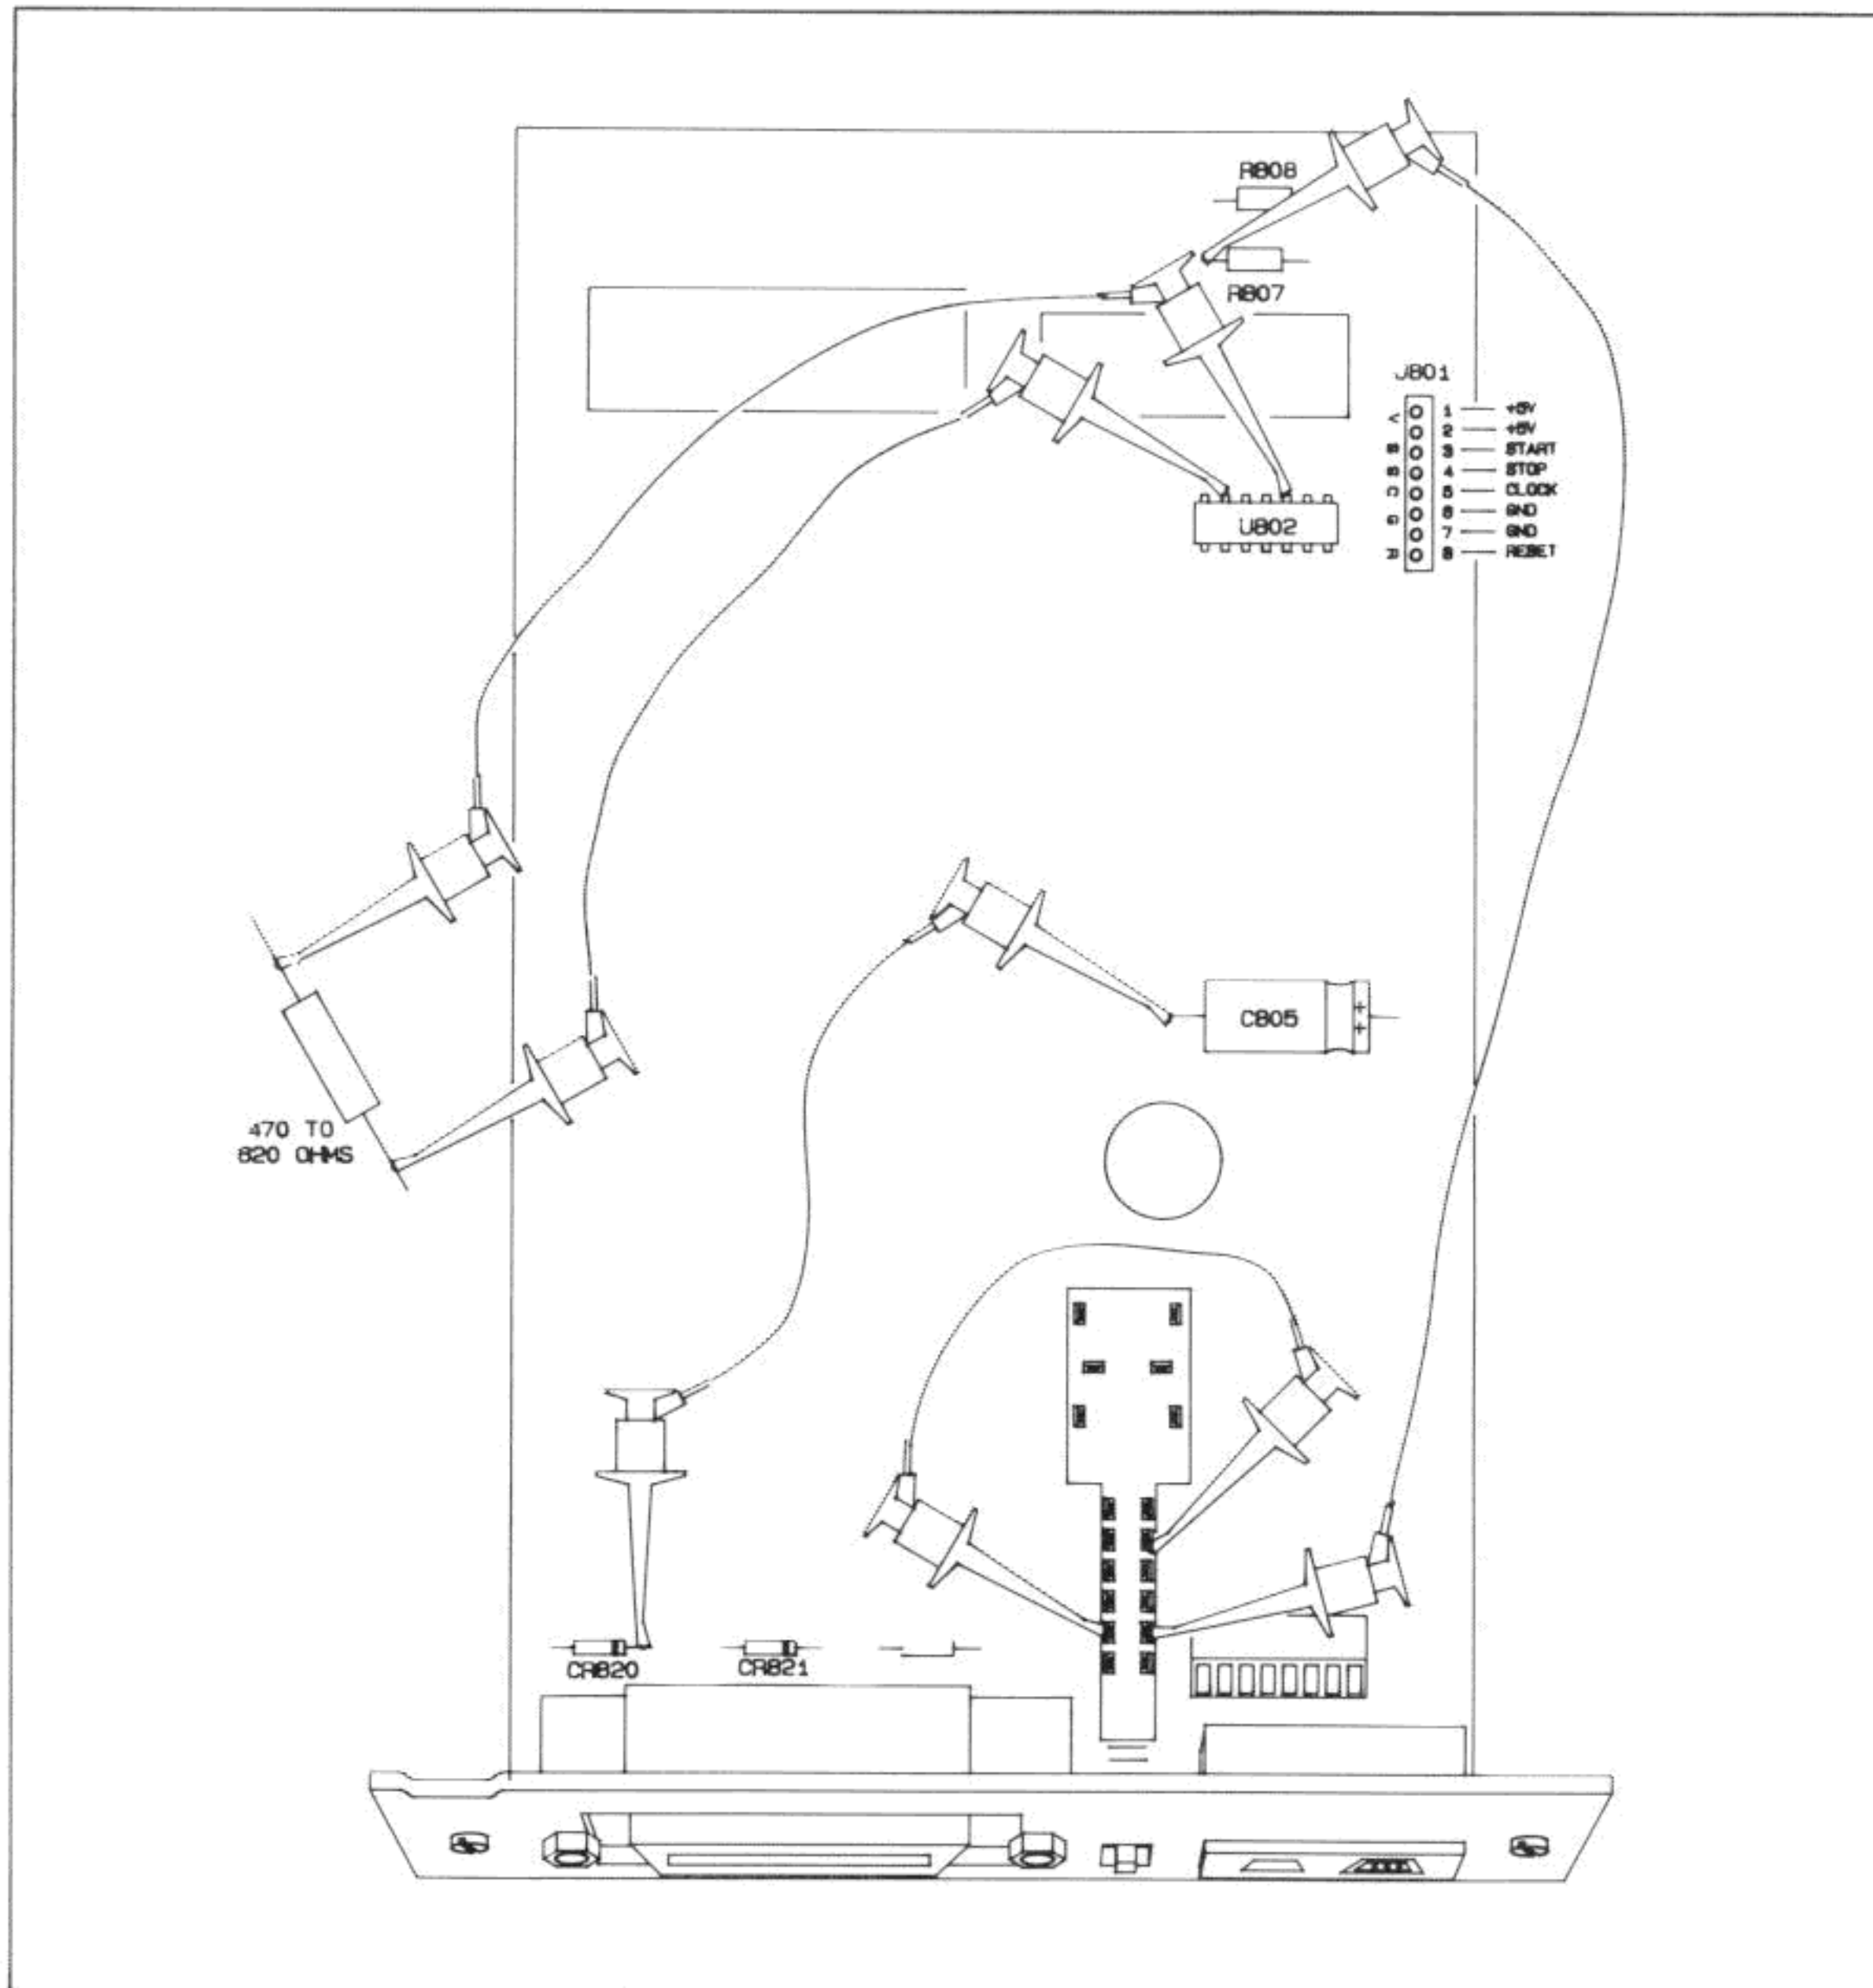

Figure 4-8-9. Jumper Configuration for SA Test #1 (HP-IB Signatures)
4-8-67. HP-IB Signatures (SA Test #1). These signatures are listed in Table 4-8-2. The board configuration shown in Figure 4-8-9 is the same as the HP-IL signatures, except that the jumper that was configured on the cathode of CR821 has been moved to the cathode of CR820.
4-8-69. S802 Signatures (SA Test #1). The jumper configuration is the same as used for obtaining the HP-IB signatures (Figure 4-8-9). In these checks, switch segments 1 through 6 of S802 are opened one at a time while the remaining switch segments are closed. If all signatures are correct, the HP-IB board is operational (assuming the HP-IL and HP-IB signatures have been checked). If any signature is incorrect, check for a defective switch segment at S802, short or open traces, a defective pullup resistor (RP801), etc. If you find an incorrect signature, refer to paragraph 4-8-71 for problem isolation.
a. Make sure the jumper configuration is the same as outlined in Figure 4-8-9.